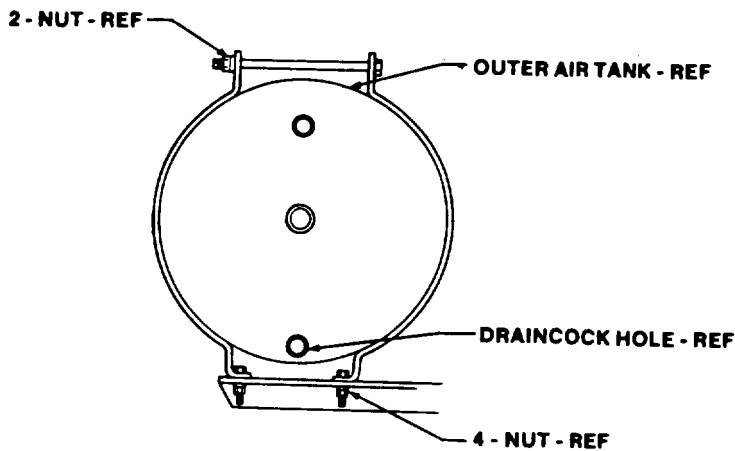

FIGURE 7
When installing the air tank on the supports, ensure it is positioned as shown in figure 7.
(3) Ensure outer air tank is positioned as shown in figure 7 and secure nuts installed in steps 1 and 2.